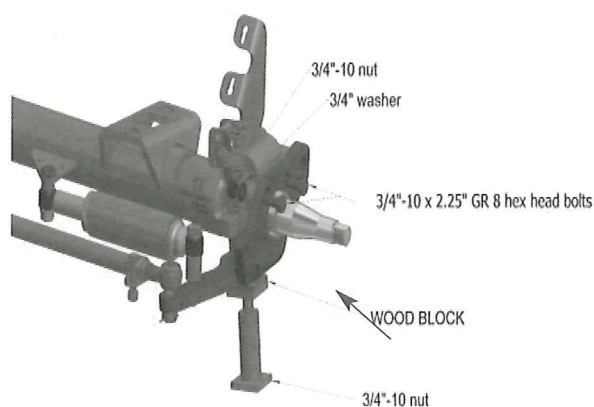

Figure 22.
16. Affix a magnetic base dial indicator on the axle and place the tip of the dial indicator on top of the upper kingpin connection. (See Figure 22)